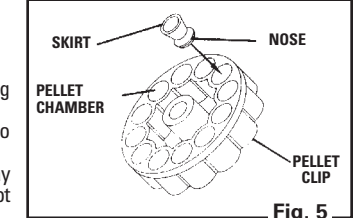

Fig. 5
- Place a .177 pellet, nose first, in each pellet chamber of the pellet clip (Fig. 5). To avoid jams or deforming pellets, make sure each pellet skirt is level or slightly below the rim of the pellet chamber.